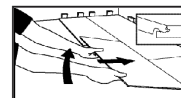

Figure 13
- Place the first board in place by angling it up slightly, pushing forward and interlocking the side tongue (Figure 13). Slide the board to the **LEFT** as necessary to align the edges of the end joint.
- Install all remaining boards and rows in the same manner. (Figures 13, 14).